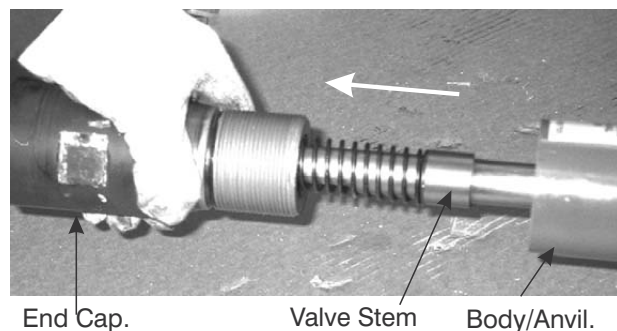

Figure 8-6. Removing the Tail Assembly.
3. Remove the tail assembly by unthreading the End Cap (8) and pulling the assembly from the Body/Anvil (1) as shown in Figure 8-6.